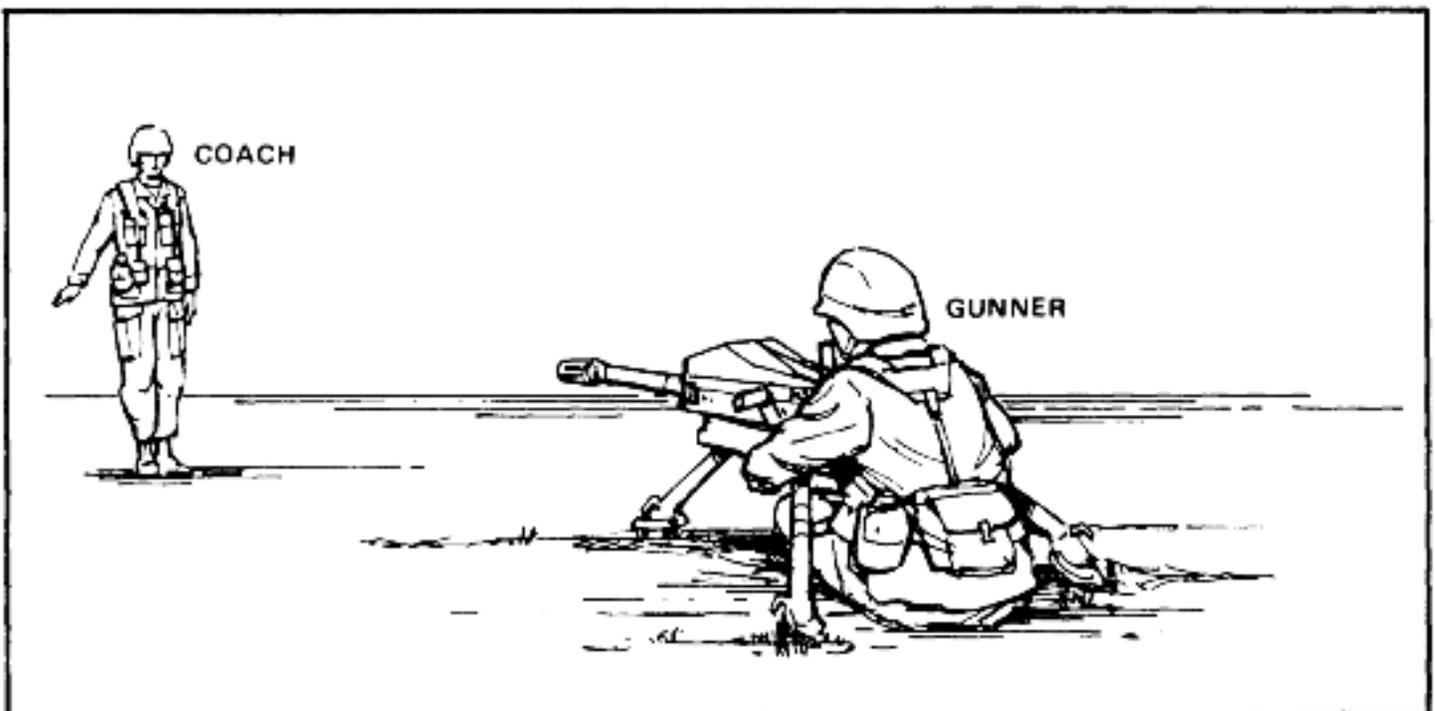

Figure 5-11. Coach and gunner exercise.
(1) The first exercise gives the gunner practice in manipulation. The coach stands ten paces in front the gun and uses hand signals to show the direction in which the gunner is to move the muzzle (Figure 5-11). The gunner works the handwheel to manipulate the gun. The coach observes and makes needed corrections. When the gunner reacts quickly and can manipulate the gun as he has been shown, his instruction may continue.